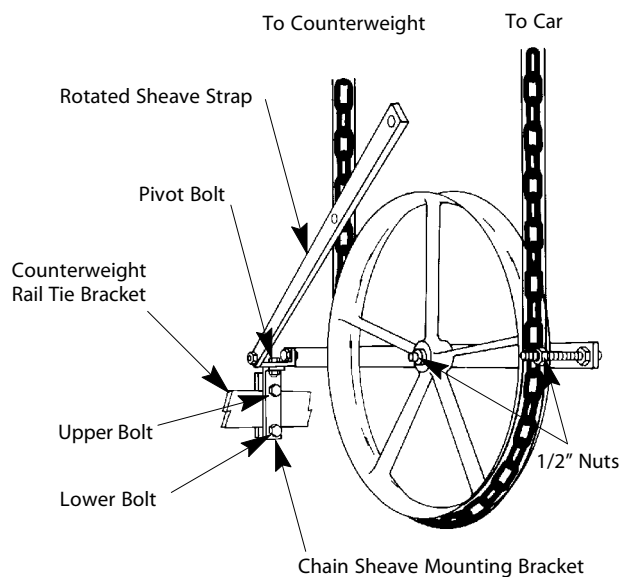

Figure 16 - Chain Guide Sheave
4. Spread the sheave strap and rotate the loose end to expose the sheave. See Figure 16.